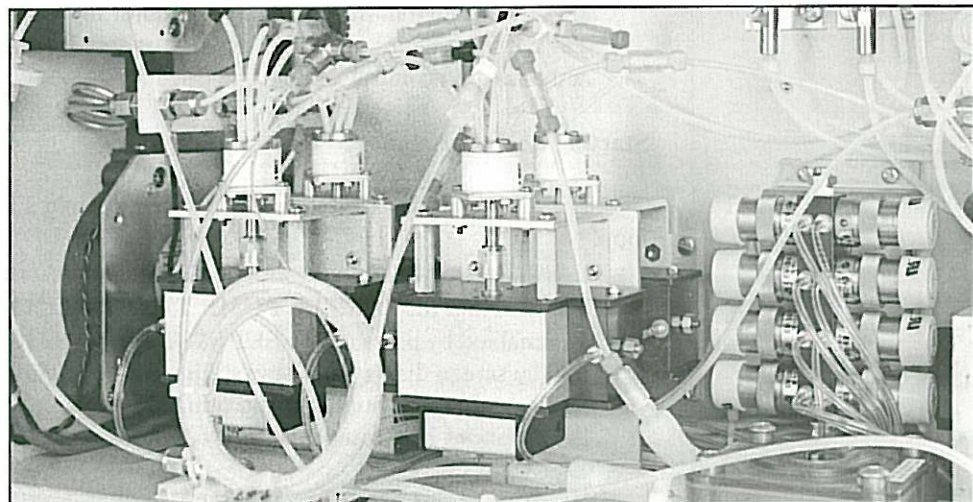

Fig. 4.14 Sample Loop Connections
- Sample loops are installed on the standard process sampling valve by simply unscrewing the sample loop connectors (see Fig. 4.14) and installing the new loop. The connections are remade finger-tight.